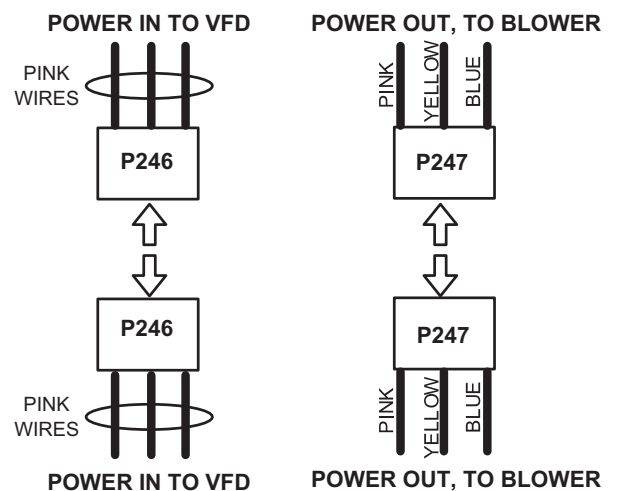

FIGURE 29
- 3 - Disconnect P246 from P246 (power in to VFD) and P247 from P247 (power out to blower). See FIGURE 29.